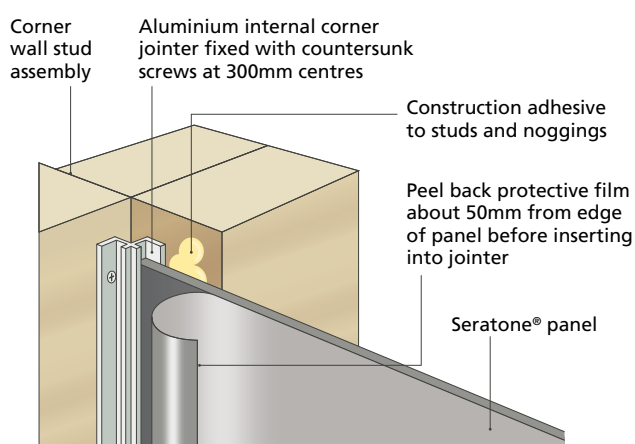

Figure 9. "Starting Point" using Internal Corner Jointers
- Take the first Seratone® panel and peel the protective film approximately 50mm from the edge – refer to Figure 9.